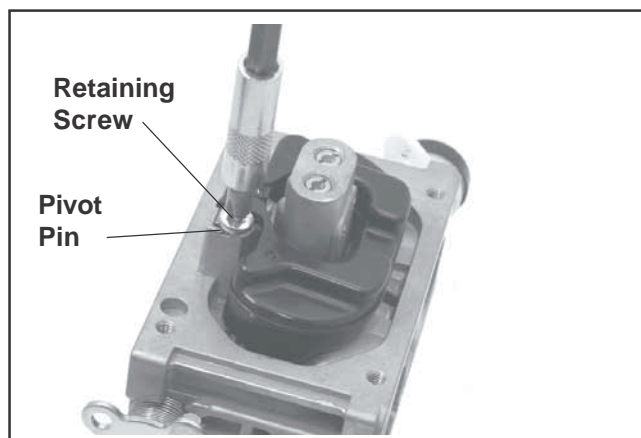

Figure 5-15. Installing Float Assembly.
6. Install the float and inlet needle down into the seat and carburetor body. Install the new pivot pin through the float hinge and secure with the new retaining screw. See Figure 5-15.